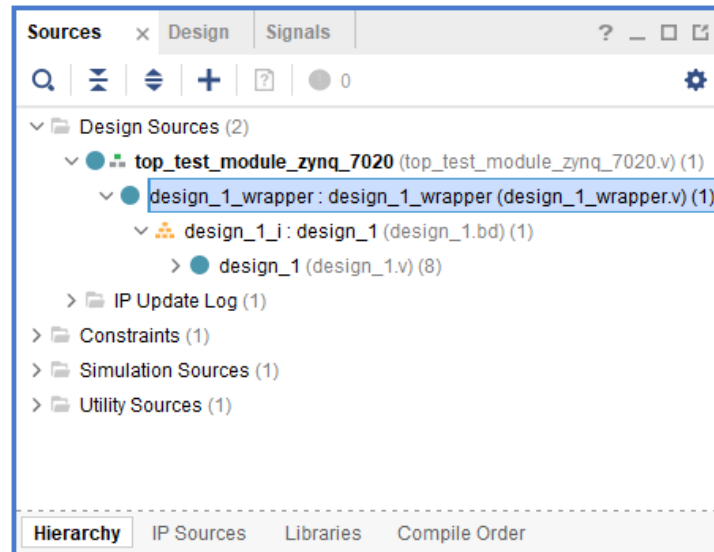
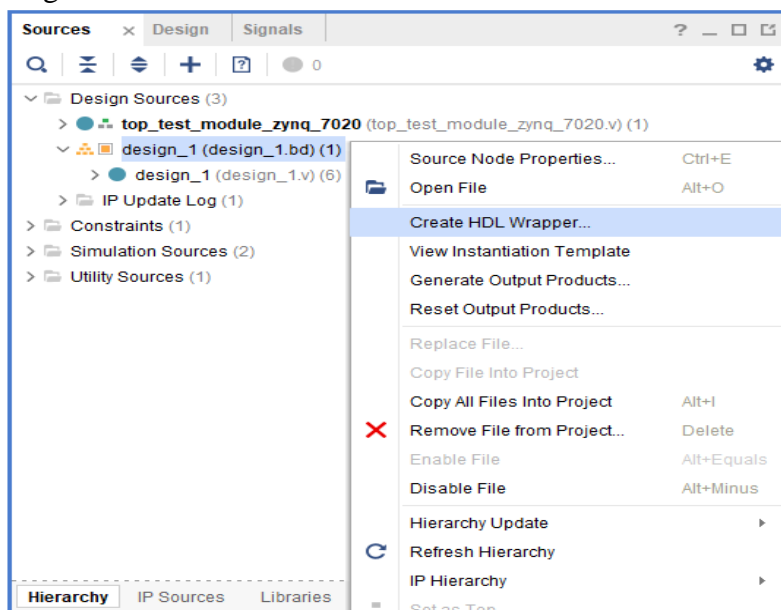

Figure 3: Instantiation Module of eMMC Host Controller 5.1 IP
Figure 11: eMMC Host Controller 5.1 IP Configuration step 8
The eMMC Host Controller block design (design_1_wrapper.v) is instantiated in the design as shown in the below Figure 3.
- Synthesize the block design first by validating the design (press key 'F6') and generate the outputs. Once the design validation was completed then generate wrapper module of the block design by right click the .bd file and click Create HDL wrapper as shown in Figure 11. After the wrapper file creation then Instantiate inside the top module of design as shown in Figure 3.